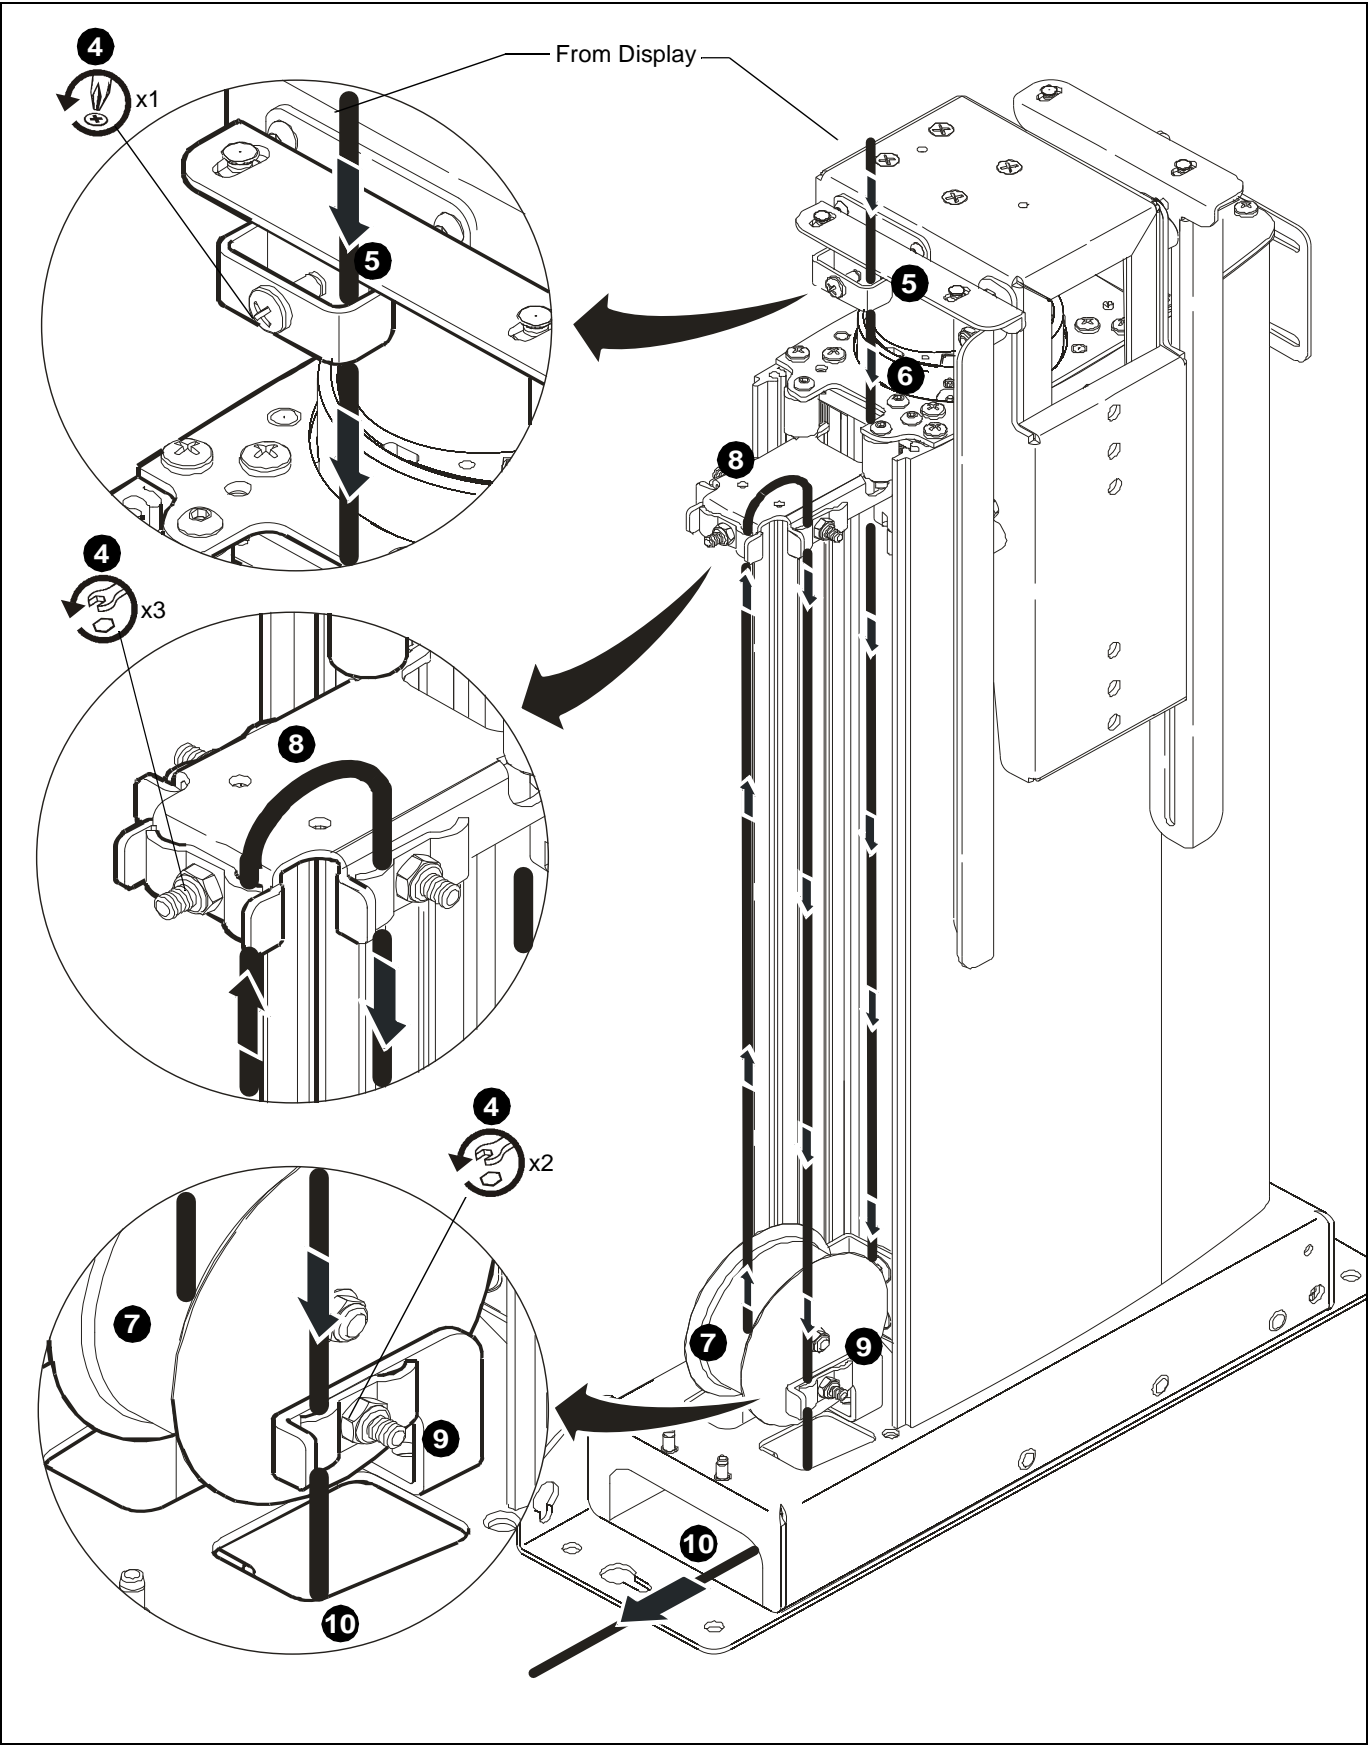

Figure 10
4. Loosen six cable clamps. (See figure 10)
5. Route cable(s) down through upper cable clamp. (See figure 10) and (See figure 11)
6. Route cable(s) down through opening at rear of middle cable clamp mounting bracket. (See figure 10) and (See figure 11)
7. Route cable under cable pulley and up through front cable clamp on middle cable clamp mounting bracket. (See figure 10)
8. Loop cable and route cable down through side cable clamp(s) on middle cable clamp mounting bracket. (See figure 10)
**CAUTION:** Cables must not extend higher than 1" (25mm) above cable mounting bracket when looped! (See figure 10)
9. Route cable(s) down through lower cable clamp(s). (See figure 10)
10. Route cable through cable access opening in top of mount base and cable access opening in side of mount base. (See figure 10)
12. Starting at upper cable clamp and working downward, remove slack from all cables and tighten remaining cable clamps. (See figure 10)